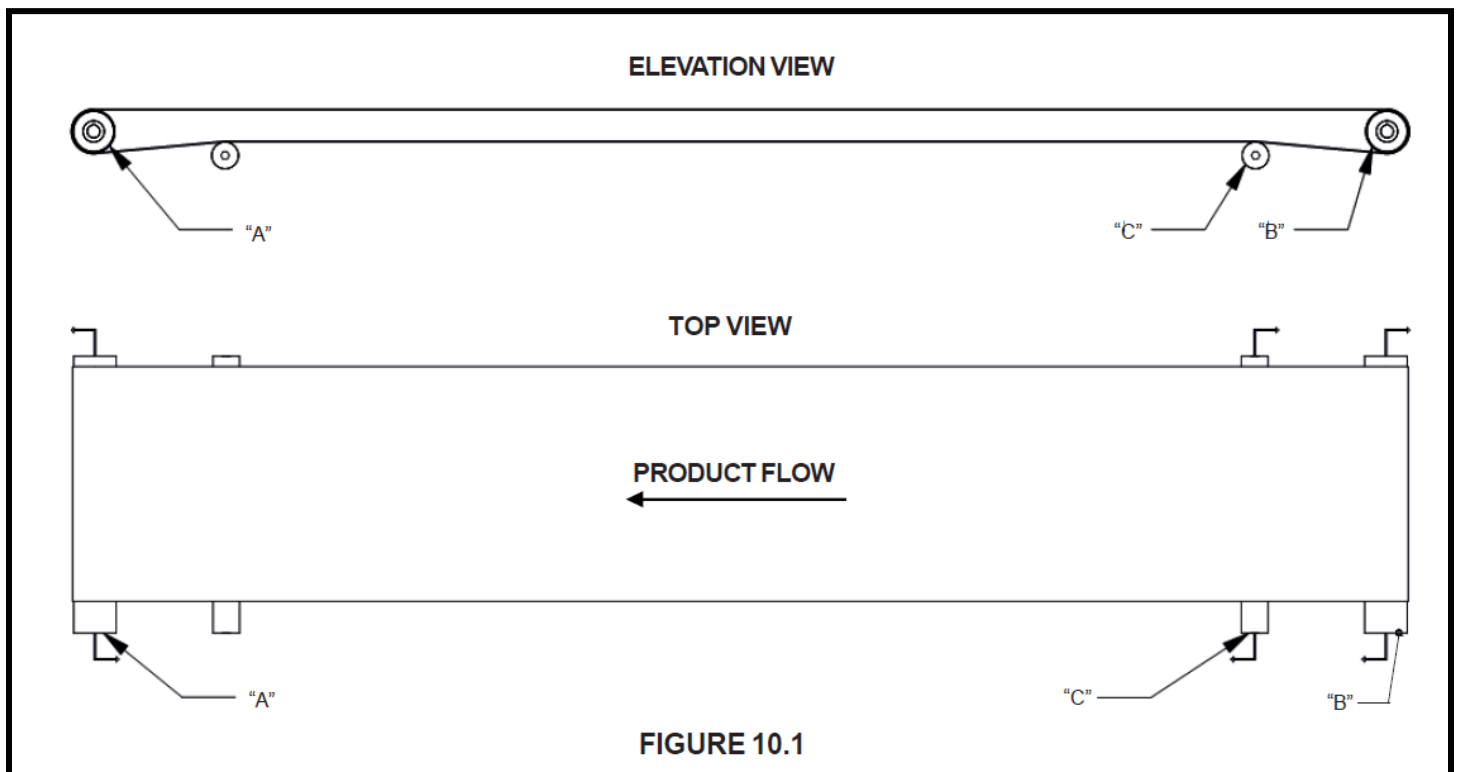

FIGURE 10.1
- 2) If belt on infeed end shifts to one side as illustrated, adjust snubber roller (C) as shown to steer belt to center of take-up pulley (B). See Figure 10.1.
- 3) If belt is riding at the center of take-up pulley (B) on infeed but is not at the center of drive pulley (A) on discharge, adjust drive pulley (A) as shown.
- 4) Adjusting drive pulley (A) may throw off alignment of take-up pulley (B). Repeat steps 2 and 3 as necessary.